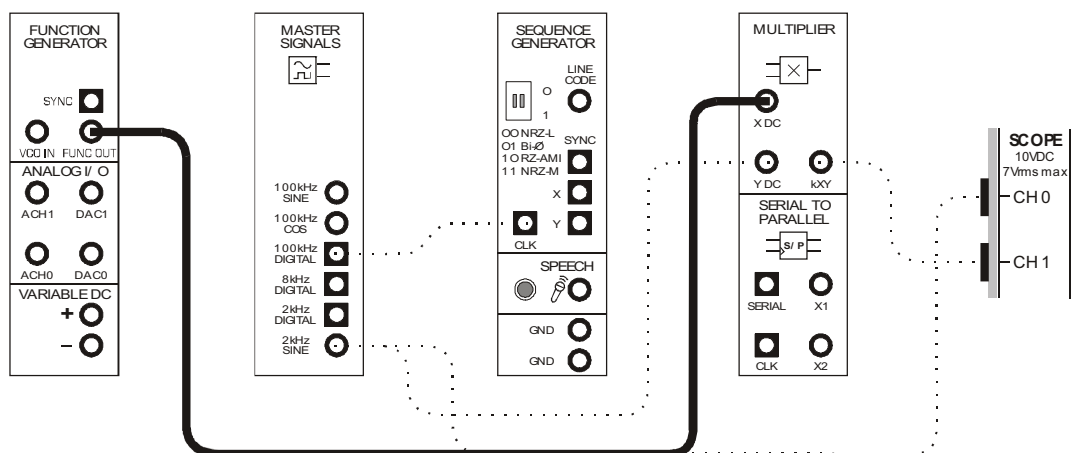
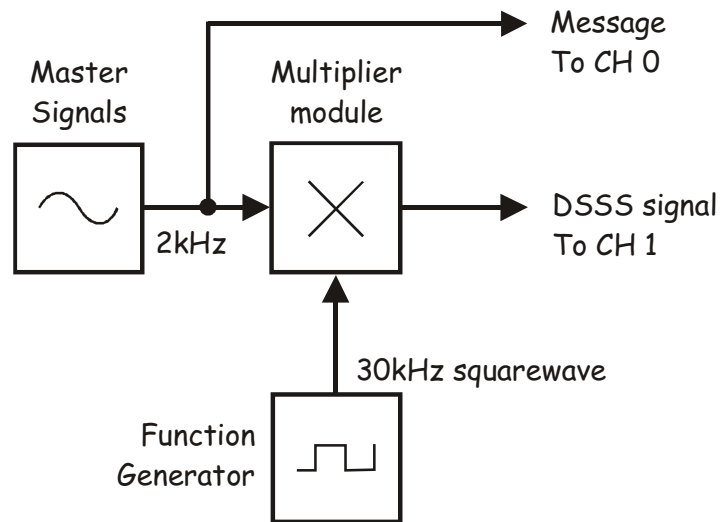

Figure 3
Figure 4
17. Disconnect the plug to the Sequence Generator module's *LINE CODE* output and modify the set-up as shown in Figure 3 below.
The set-up in Figure 3 can be represented by the block diagram in Figure 4 below. Notice that the carrier signal is a 30kHz squarewave.